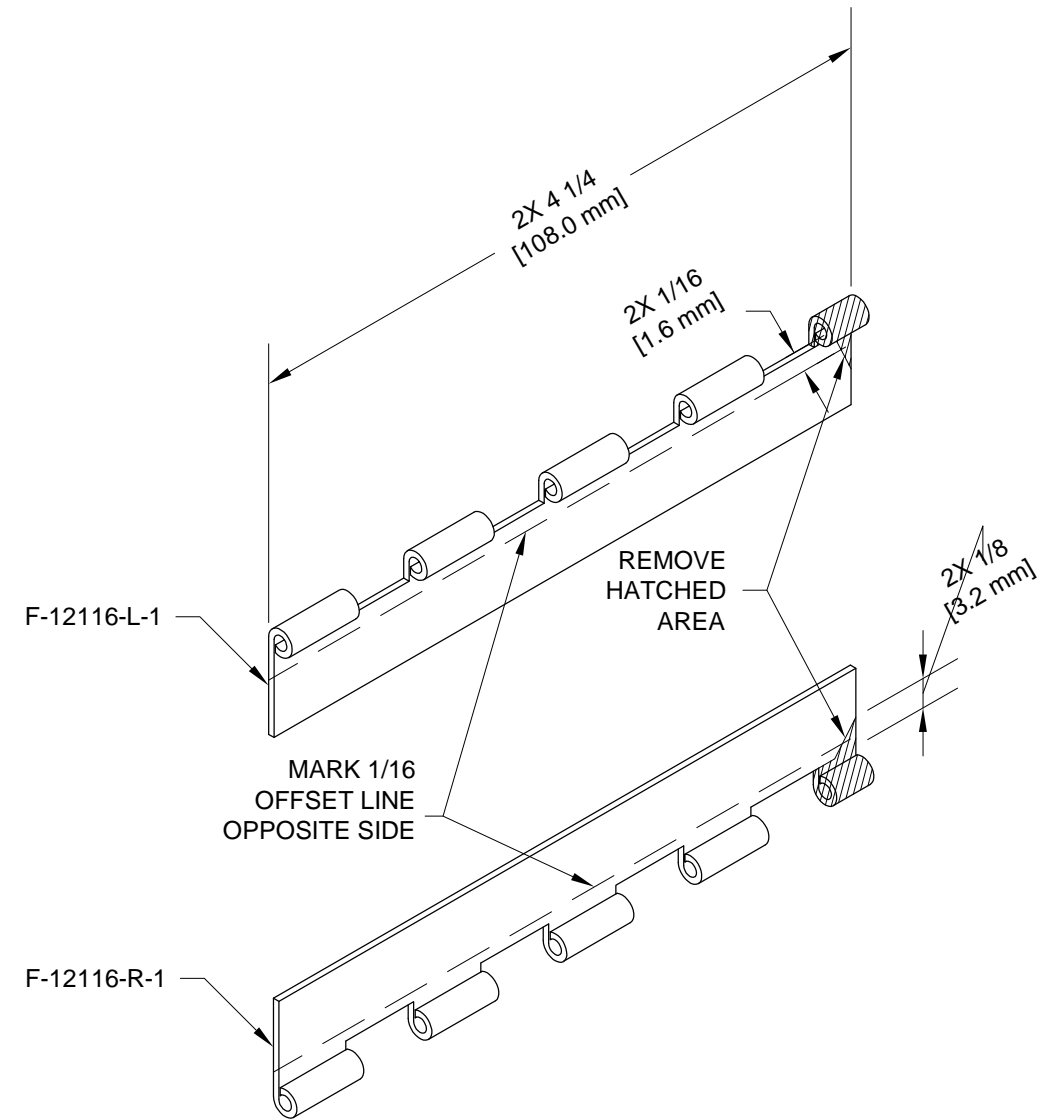

FIGURE 2: MID COWL HINGES
Step 2: Mark two lengths of AN257-P4 piano hinge to make the F-12116-L-1 and F-12116-R-1 per the dimensions in Figure 2. Remove the hinge pin then cut the hinge to length.